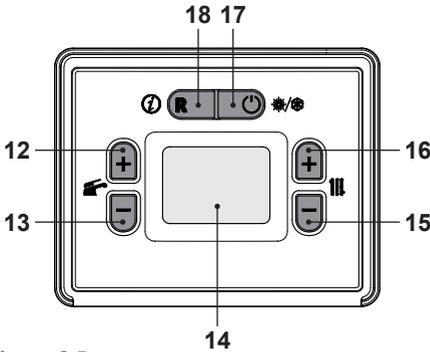

Figure 2.5
- Press 17 until the symbol  appears on the display Figure 2.5.
The heating delivery hot water temperature can be adjusted using the 15 (decrease) and 16 (increase) buttons (Figure 2.5) from a minimum of approx. 25°C to a maximum of approx. 85°C or from a minimum of approx. 50°C to a maximum of 80°C or from a minimum of approx. 25°C to a maximum of 55°C (see "Selecting the heating temperature set" on page 47). The first time one of these two buttons is pressed the "set" value is displayed; the second time it is pressed this can be changed.
If the room temperature is not comfortable, you can increase or decrease the heating system delivery temperature by $\pm 15^{\circ}\text{C}$ using the 15 (decrease) and 16 (increase) buttons (Figure 2.5).
The domestic hot water temperature can be adjusted using the 12 (increase) and 13 (decrease) buttons (Figure 2.5) from a minimum of approx. 30°C to a maximum of approx. 60°C . The first time one of these two buttons is pressed, the "set" value is displayed. The second time it is pressed, the value can be changed.